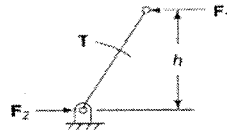

Fig Q1
1. In the fig Q1, $F_1=F_2=100$ N, $h=50$ mm. Find the magnitude in N-m and direction of T.